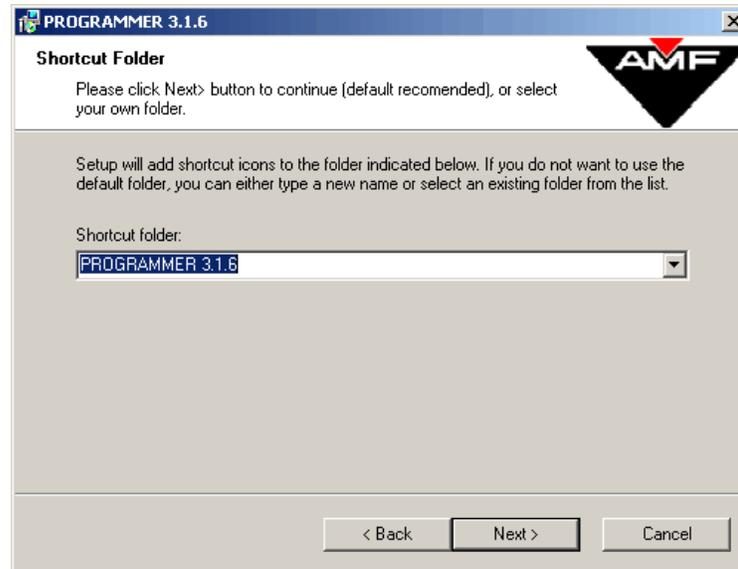

Figure 1-16
15. **Figure 1-16** shows the folder location into which the program will place shortcut icons. The default folder is listed in the textbox and is recommended as the location for the shortcuts. Click on the **<Next>** button to continue.